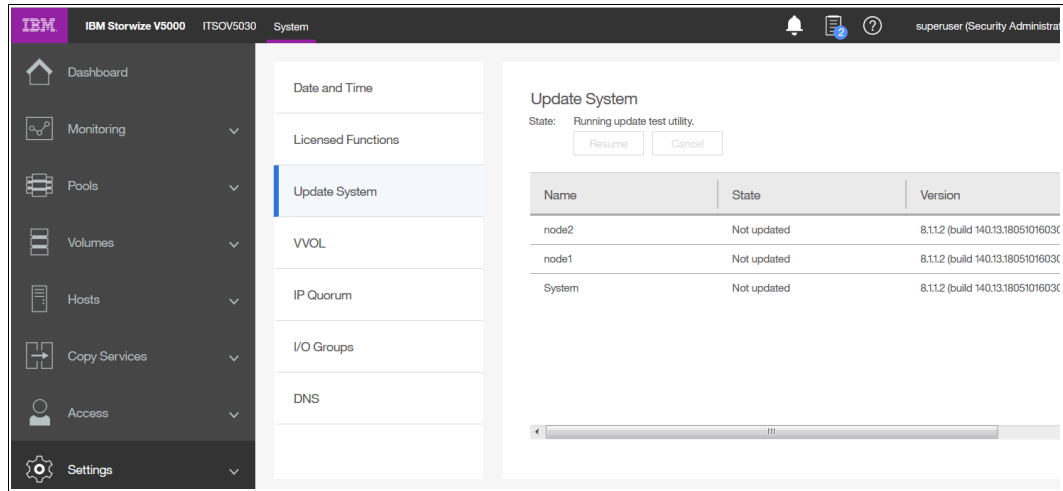

Figure 12-50 State while the test utility run
- After the files upload, the test utility is automatically run, as shown in Figure 12-50. The test utility verifies that no issues exist with the current system environment, such as failed components and drive firmware that is not at the latest level.